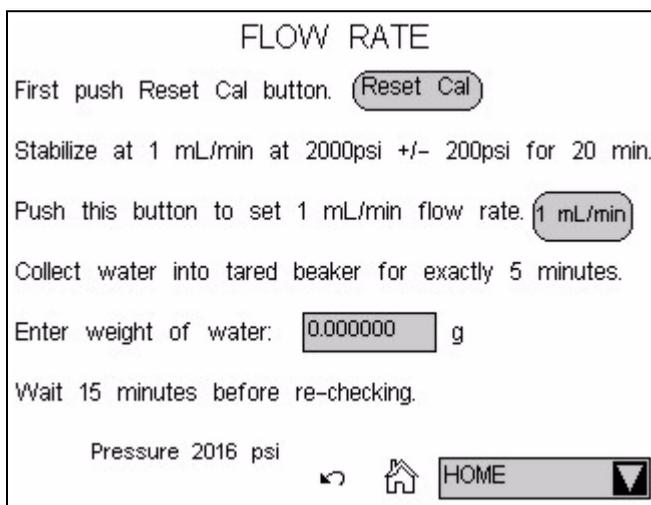

Figure 5-5. Flow Rate Page
1. Open the ICS-1500 Wellness Panel in Chromeleon (see Section 5.1.1), or open the ICS-1500 touch screen **FLOW RATE** page (see Figure 5-5).